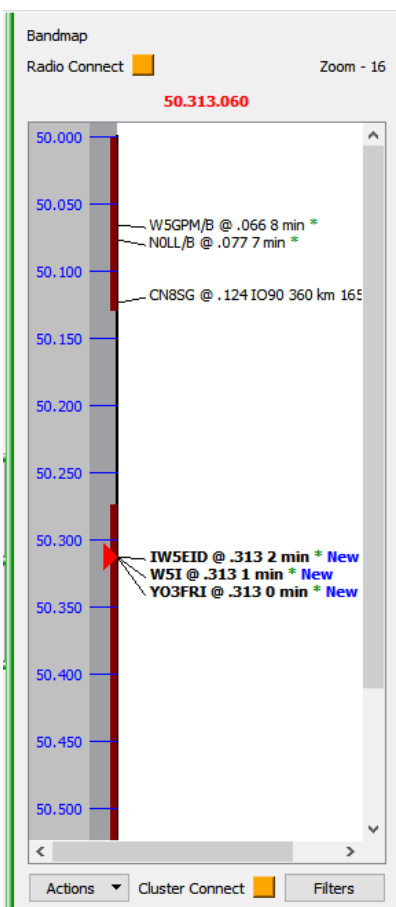

Figure 147 – Bandmap display
An example display is shown in Figure 147. **Beware:** if you don’t see anything, check your filters
To vary the zoom in order to focus on areas of interest use the scroll wheel¹³⁰ while hovering over the grey frequency bar. The current zoom setting (- 16, the least zoom, in Figure 147) is displayed in the top right of the panel. The scroll bar on the right can be used to move within the extended display thus created, or the scroll wheel while hovering over the white portion of the panel¹³¹.
- The current rig frequency is indicated by the black ‘play’ symbol (‘dial cursor’ on 144.290 in Figure 147). If this symbol turns red it indicates that it is a frequency/mode pairing that does not match the bandplan.
- If the dial cursor is not viewable, click the dial frequency at the top of the panel (144.290 at top of Figure 147) to bring that frequency back into the viewport.